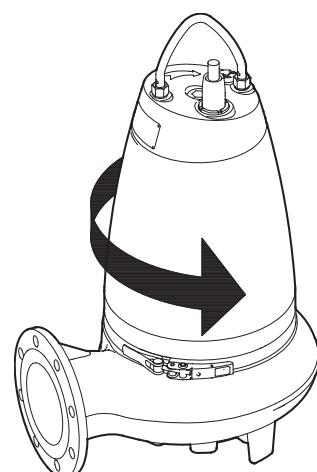

Fig. 13 Jerk direction
The pump should rotate clockwise when viewed from above. When started, the pump will jerk in the opposite direction of the direction of rotation, see fig. 13.
3. If connected correctly, the pump will jerk in the opposite direction of the direction of rotation, see fig. 13. If not, interchange any two of the incoming supply wires.